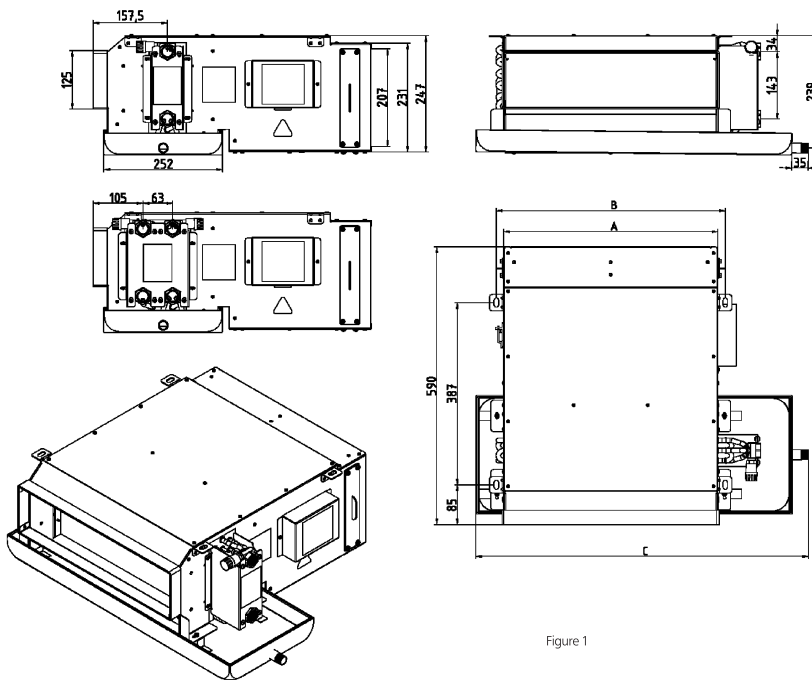

Figure 1
- 2 Have adequate space for installation and maintenance. Please refer to the unit size figure 1 and the correction diagram. (Figure 2: Gaps around the unit shows the required minimum space.)